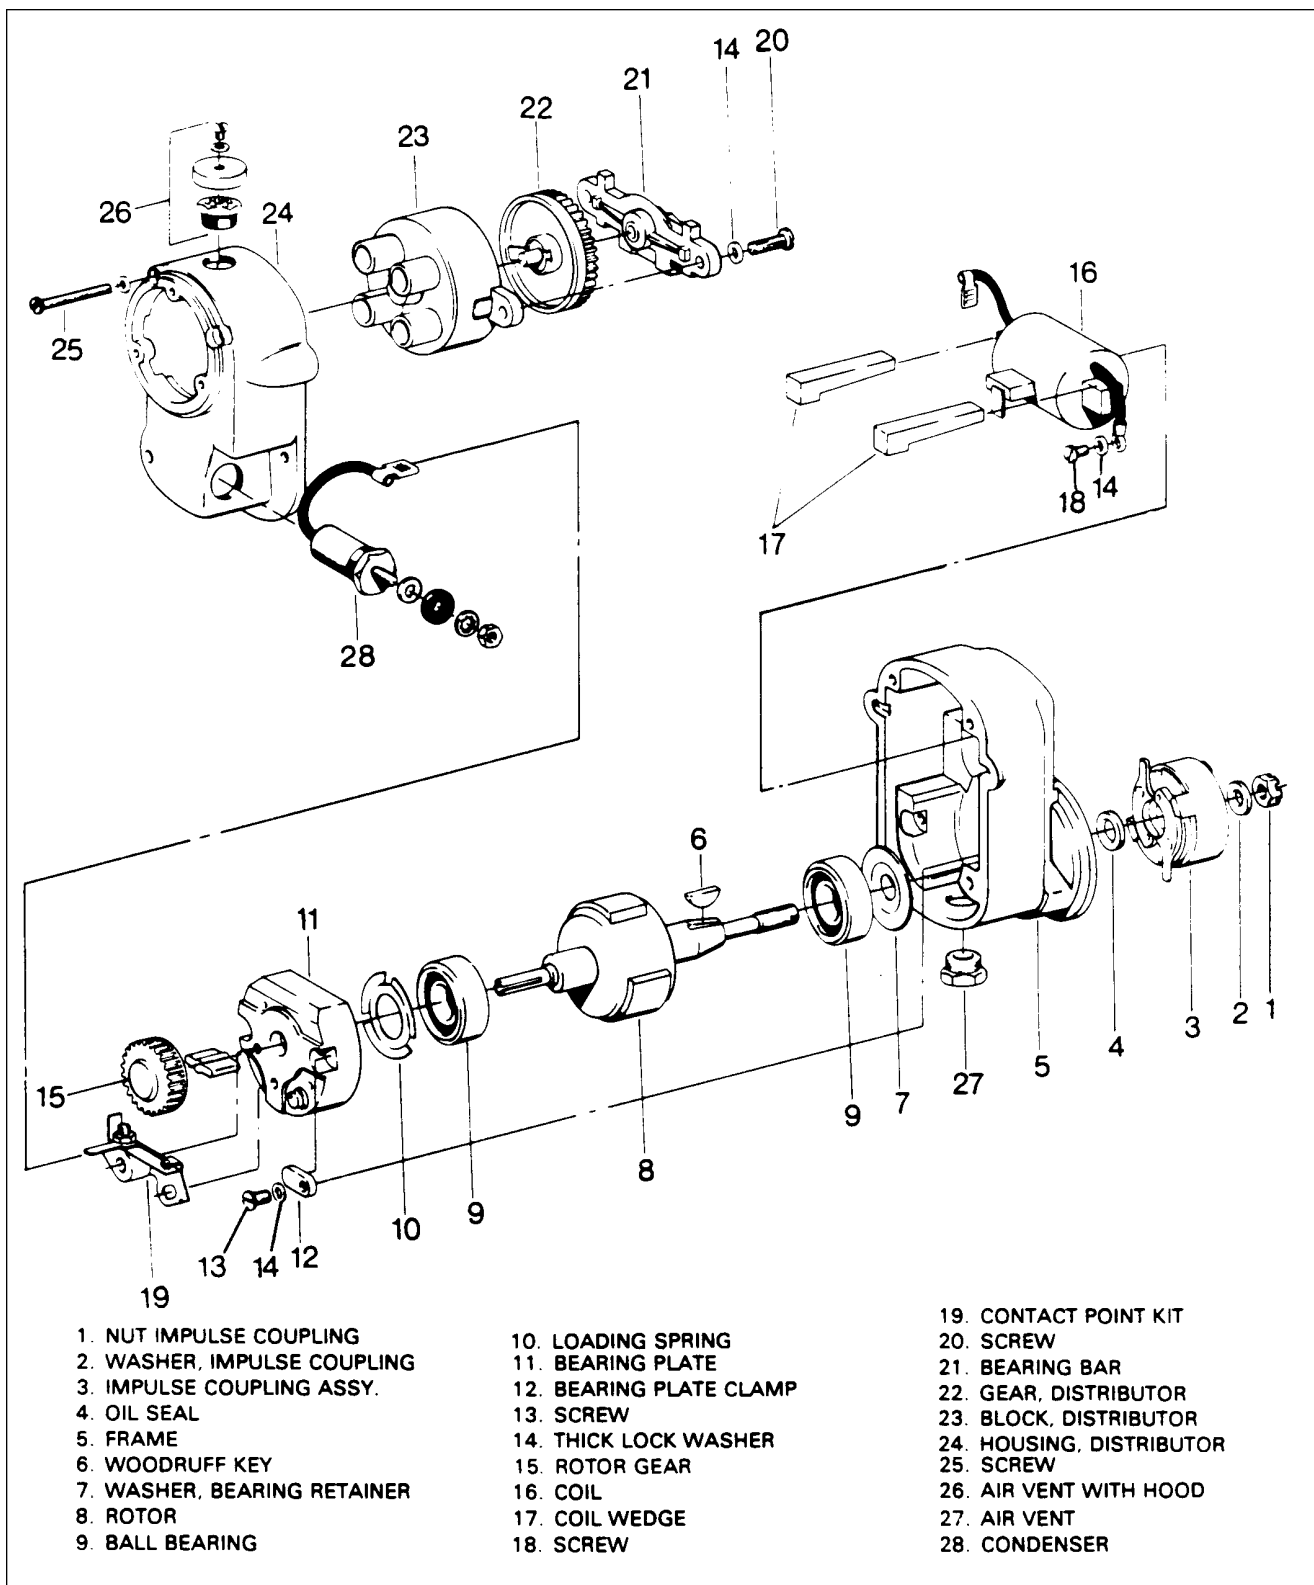

Figure 74-3. Exploded View of 4200 Series Magneto
1. **Disassembly Of Magnetos (Refer to Figure 74-3.)**